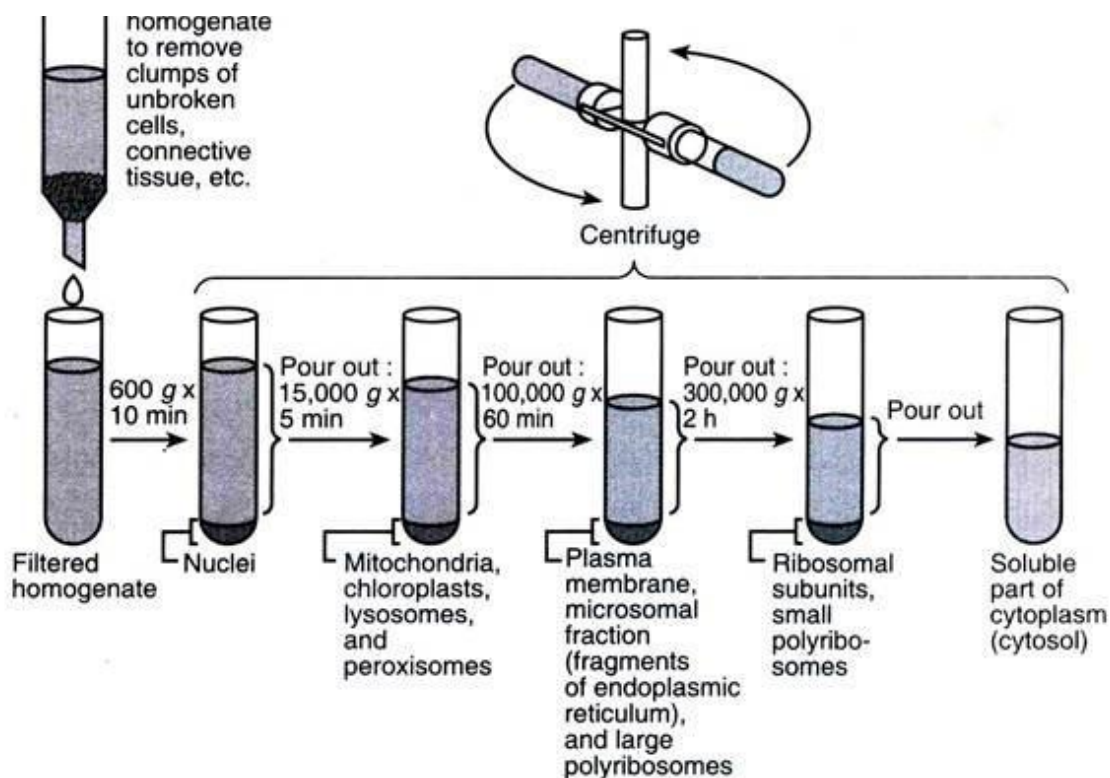

Figure 1: General principle of differential centrifugation, applied to subcellular fractionation (image credit: (Kumar))
- In medical and biology labs, crude tissue homogenates containing organelles, membrane vesicles, and other structural fragments are divided into different fractions by the stepwise increase of the applied centrifugal field. Furthermore, differential centrifugation is also routinely used in the isolation of non-living substances, like nanoparticles, colloids, and viruses. The general principle of differential centrifugation is outlined in Figure 1.